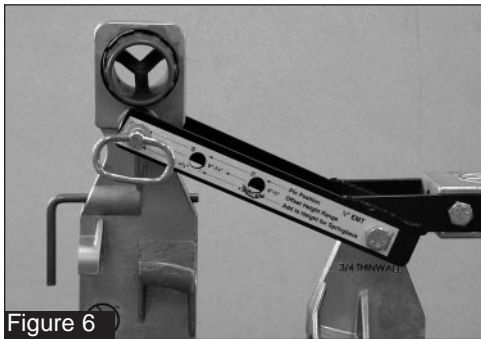

Figure 6
4. Select the correct hole location on the bracket, pull the retaining pin and move the bracket until the selected hole lines up with the frame hole. Insert the retaining pin. See Figure 6.